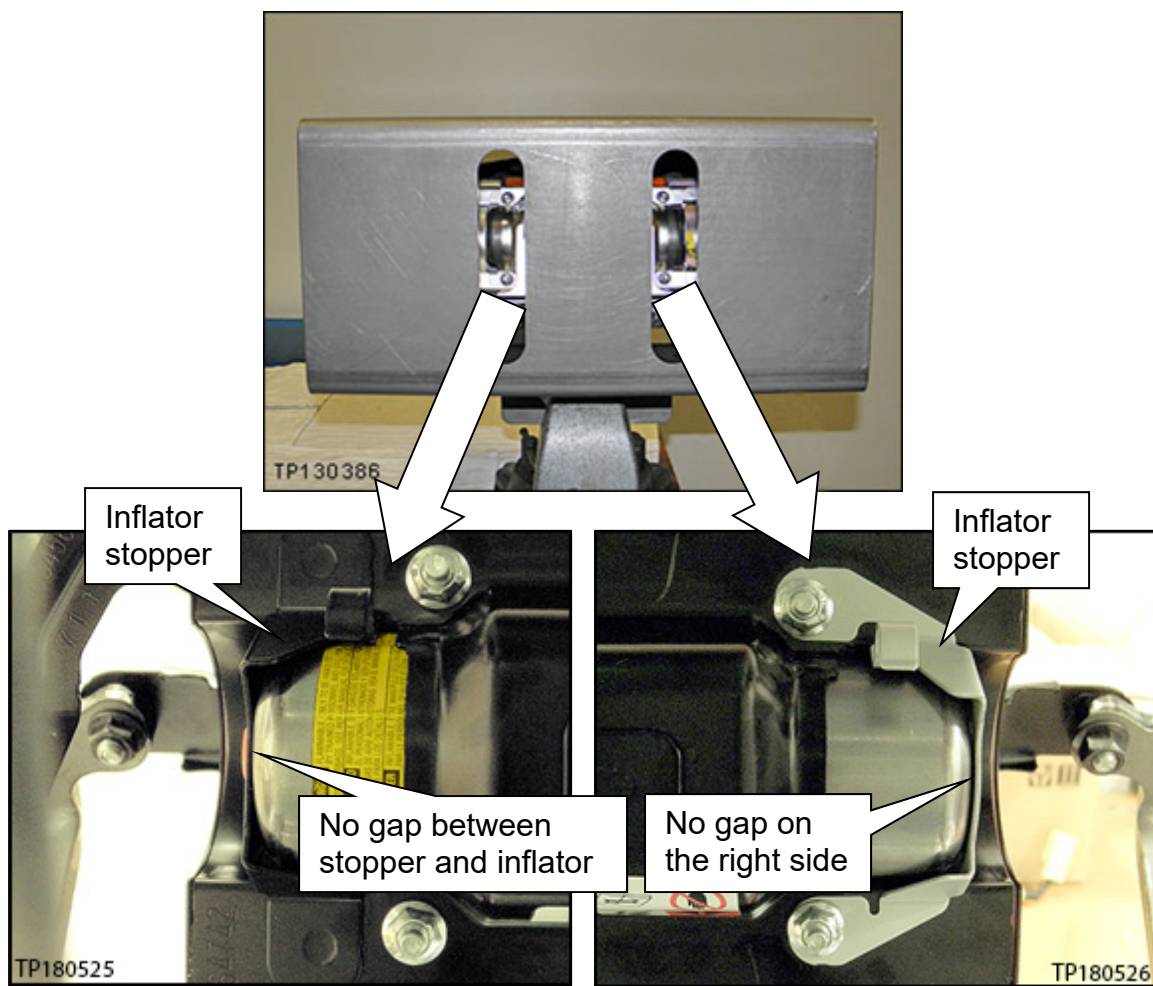

Figure 20
28. Install the inflator stopper and 4 inflator securing nuts finger tight (see Figure 20).
29. Make sure the inflator is pushed all the way into its housing – no gap on the left side (see Figure 20).
30. Make sure there is no gap between the inflator stopper and the inflator on the right side (see Figure 20).